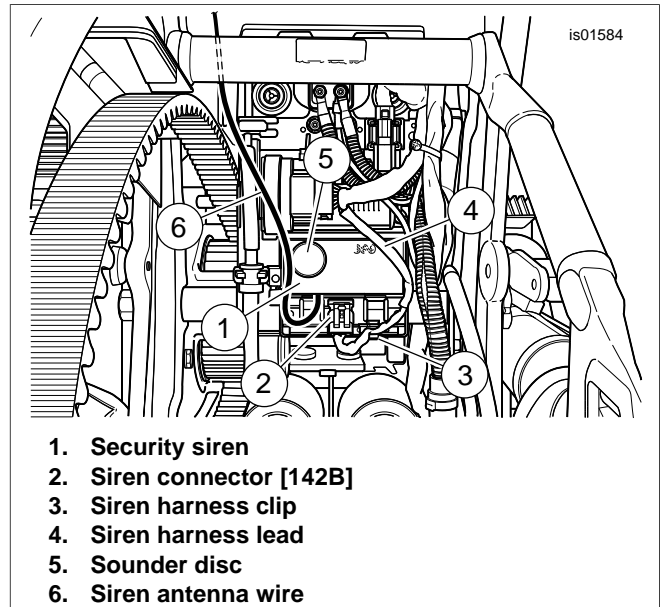

Figure 19. Siren Mounting (Softail Models EXCEPT FXCW/C)
5. See Figure 19. Orient the siren (1) as shown, with the harness connector (2) toward the bottom and the sounder disc (5) facing out. Route the siren pager antenna wire (6)